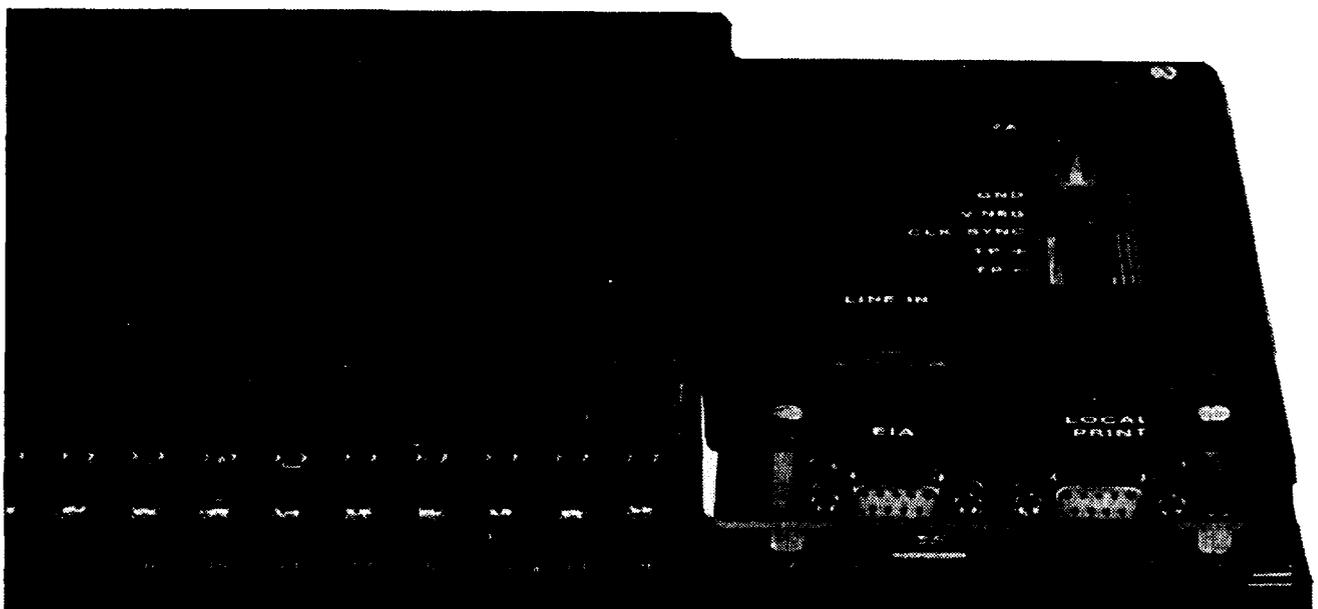
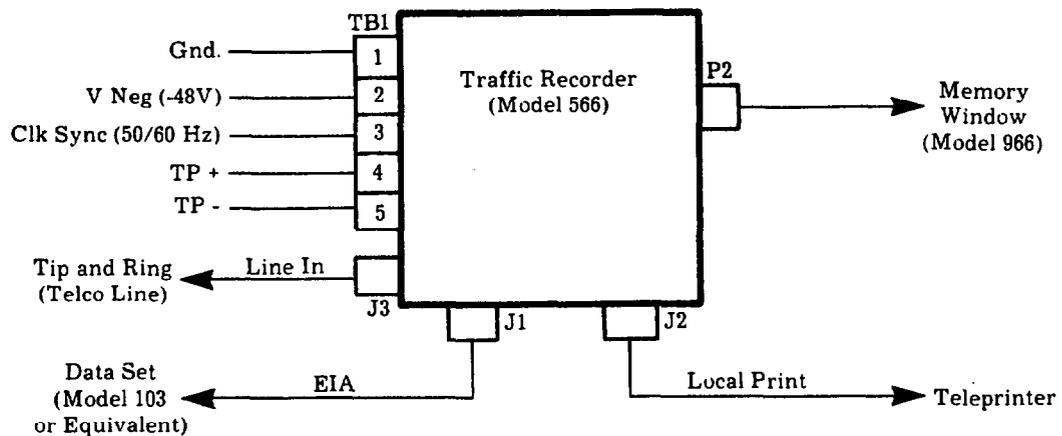

Figure II-4—Traffic Recorder Rear Panel Connections
Figure II-5—Equipment Interface Diagram
4.01 All electrical connections to the Traffic Recorder are made through cable connectors, wire wrap terminals, or screw terminals at the rear panel. See Figure II-4. Typical interface connections are shown in Figure II-5. The Memory Window (Model 966), when used with the Traffic Recorder, is connected through the cable connector on the front panel. See Table B.